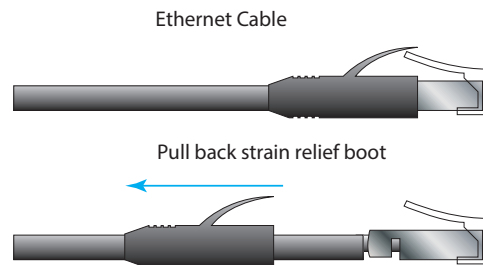

Fig. 2.3
7. Before connecting the long outdoor Ethernet cable to the camera, pull the strain relief boot back from the RJ45 plug and slide it away to make room for the waterproof housing, see Fig. 2.3